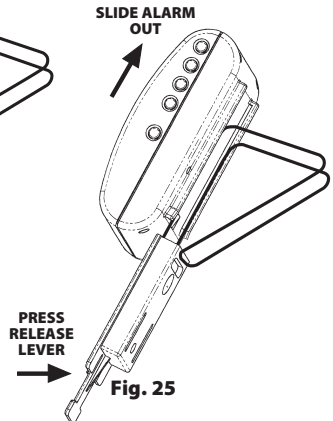

Fig. 25
4. To remove the alarm unit from the bracket, gently push in on the bracket release lever while sliding the alarm unit up and out (See Fig. 25).